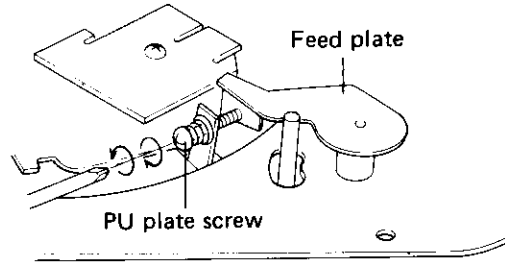

Fig. 4-6
1. If the tonearm returns too early, screw the PU plate screw outwards (see Fig. 4-6).